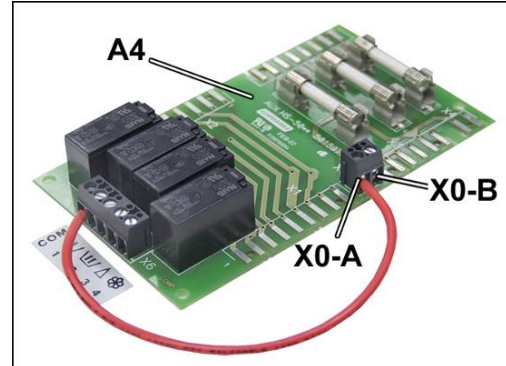

fig. 23
- Supply terminal **COM** from terminal **X0-A** of **A4** board. (cable not supplied) fig. 23.